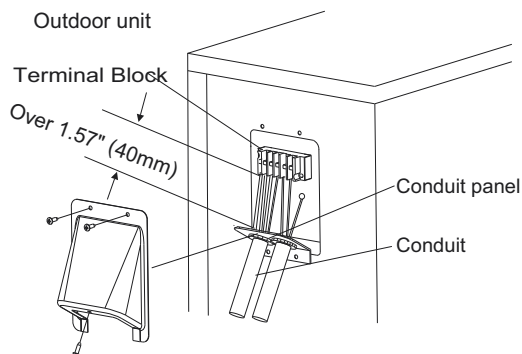

Fig. 21 —Field Wiring
5. Connect the conduit to conduit panel (see Fig.21).